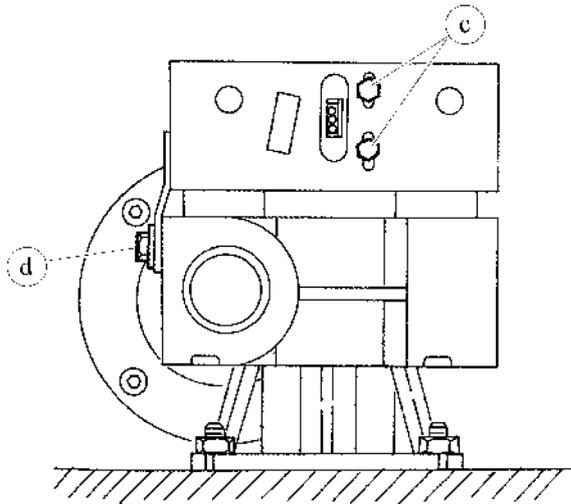

Figure 8.8-2
4. Adjust the centering of the encoder photocell by turning the 2 screws **c** and **d** so that the photocell is positioned as shown in Figure 8.8-2.